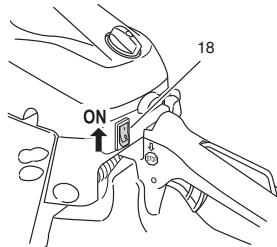

Fig. 12
1. Set ignition switch (18) to ON position. (Fig. 12)